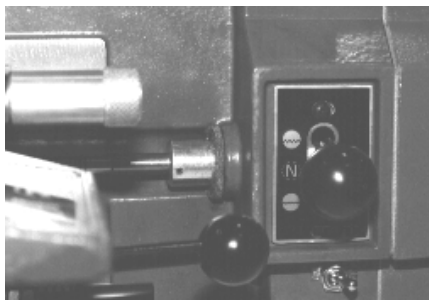

Figure 21
7. When the machining is completed, disengage feed lever from finish cut to neutral (N). **See Figure 21.**